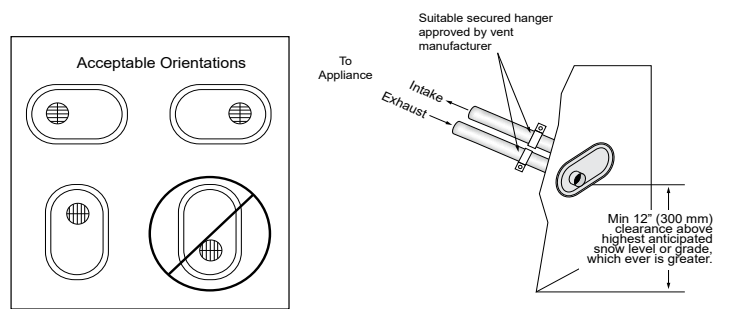

Figure 8.11: Sidewall Clearances with Pancake Terminal
- Two pipe “pancake” vent terminal as pictured in **Figure 8.11** is permitted. .